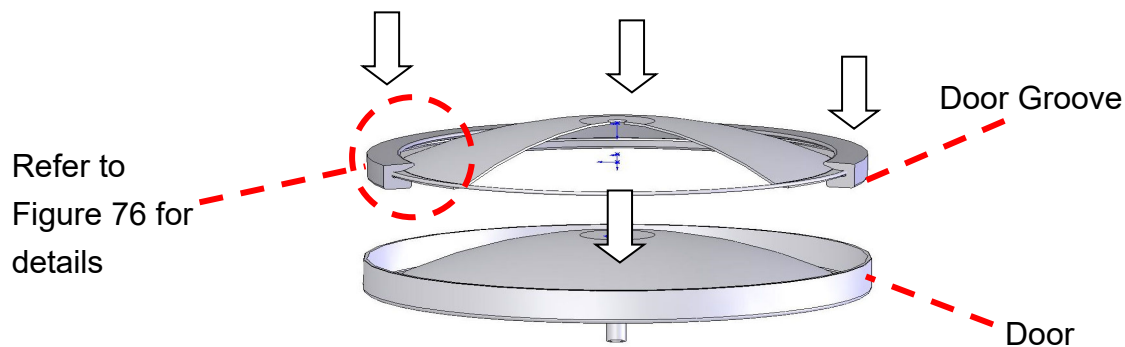
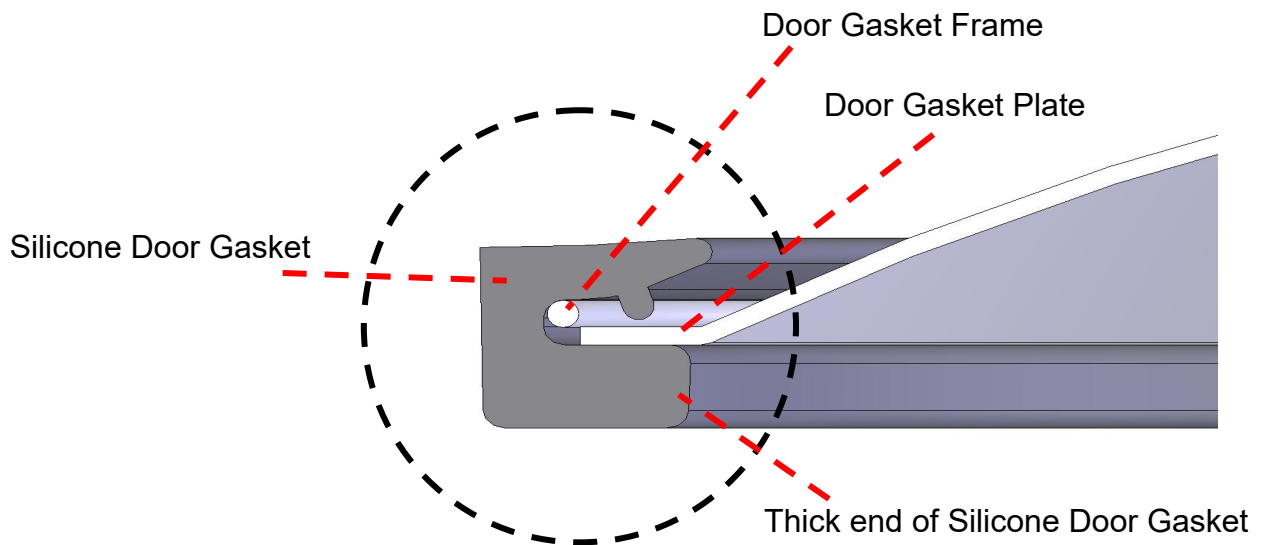

Figure 75
Figure 76
3. Install the gasket with the door gasket frame, door gasket plate inside to the door groove. Press the gasket into the door groove evenly as shown in Figure 75. Take thick end of silicone door gasket of the installation direction while pressing the gasket into the groove. Refer to Figure 76 for the correct direction.